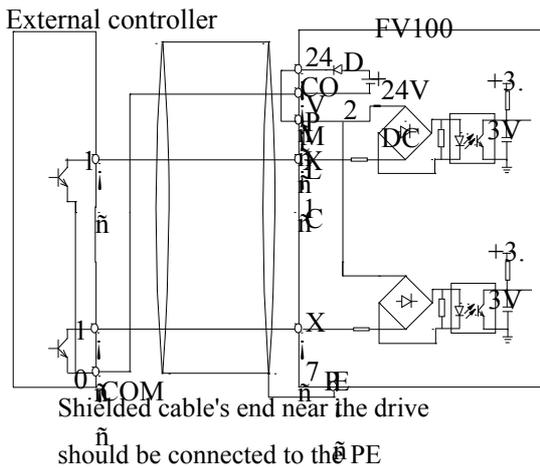

Fig.4-9 Use internal power supply for Source connection
1) Use internal +24V power supply of VFD and the external controller uses NPN transistors whose common emitter are connected, as shown in the fig.4-9